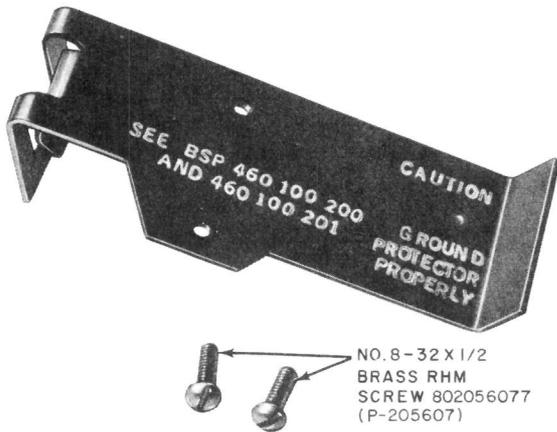
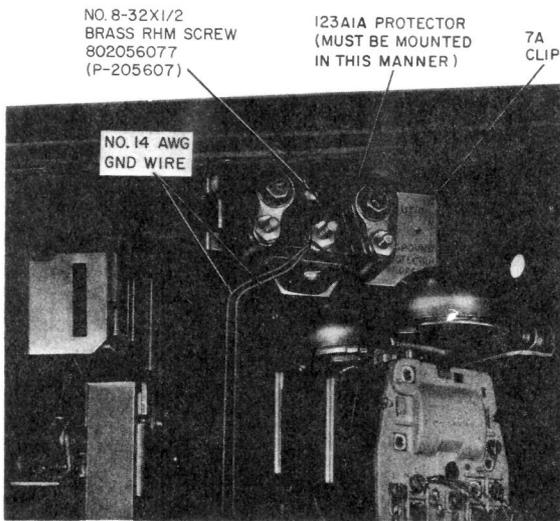

Fig. 25—7A Clip For Mounting 123A1A Protector and 840362024 Capacitor Board Assembly in Panel Phone
Fig. 26—123A1A Protector Installed in Panel Phone
- Install the protector inside a 2A- or 2C-type set on a 7A clip (Fig. 25). Push the 7A clip, with protector, in the set so its spring loaded flange fastens on the right leg of the chute lock bracket (Fig. 26). Dress leads to avoid interference with moving parts.